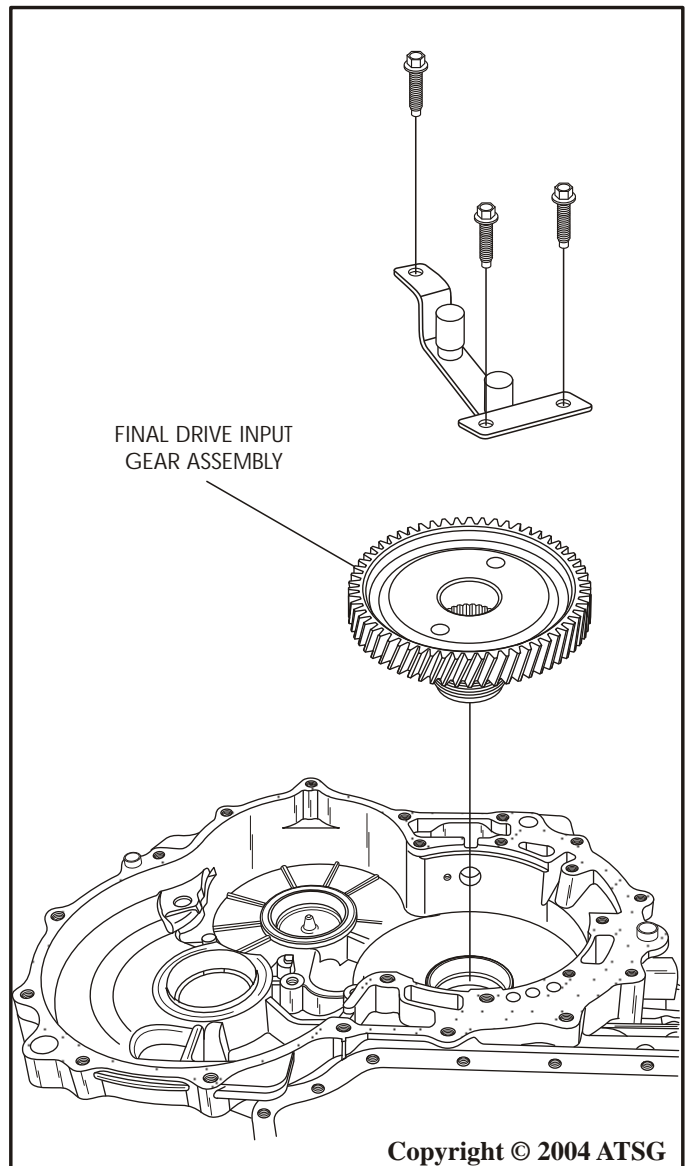

Figure 115
11. Rotate the transaxle 180 degrees again, remove final drive input gear holding tool, as shown in Figure 115.
12. Remove the final drive input gear from the transaxle case, as shown in Figure 115